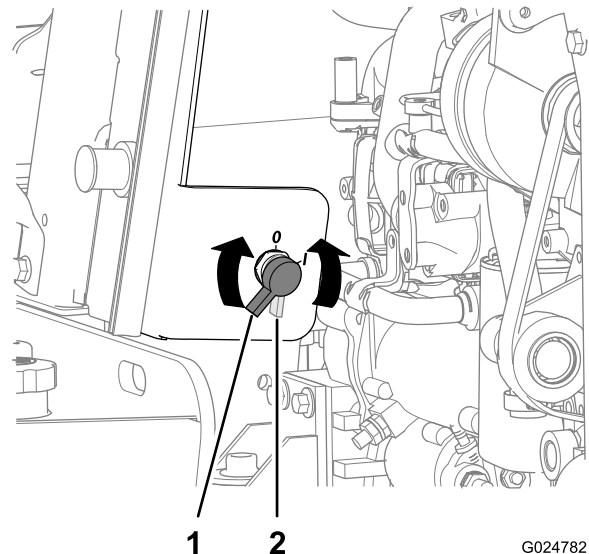

Figure 80
- Connect the positive lead of the battery charger to the positive-battery post (Figure 80).
- Rotate the battery-disconnect switch counterclockwise to the Off position (Figure 80).
8. Rotate the battery-disconnect switch clockwise to the On position (Figure 80).